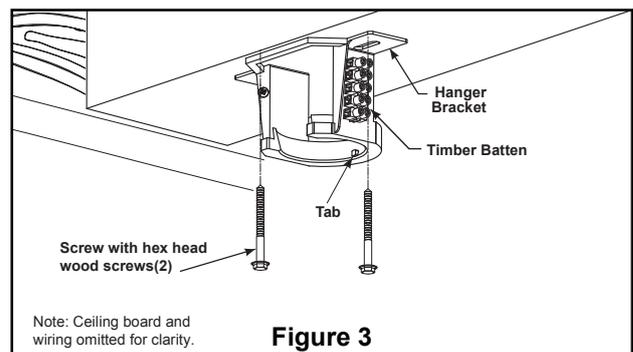

Figure 3
1. Drill a hole in the ceiling board and batten for wiring. Securely attach the hanger bracket to a rafter, beam or other structural support using pan head fasteners (for use with flat surfaces). Never use countersinking screws or those without flat contact to the bracket. (Figure 3)